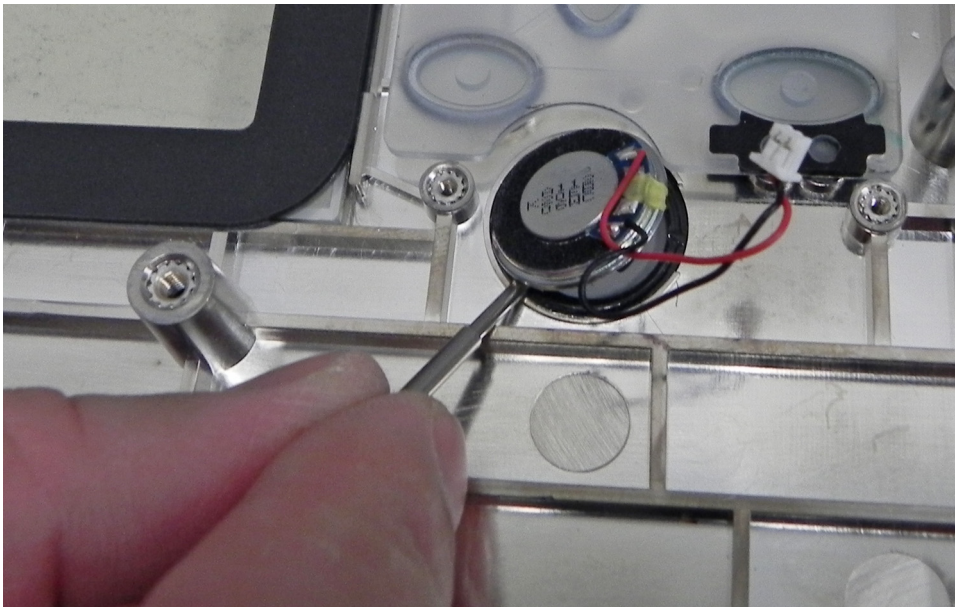

Figure 5-18. Remove Speaker
10. Carefully pry up the speaker with a stub nosed pick. Note that the front side of the speaker has a gasket (Figure 5-18).